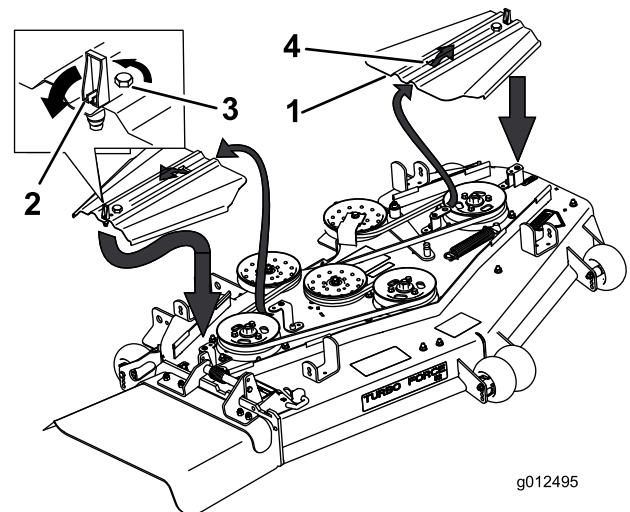

Figure 67
5. Remove the belt covers and the bolts attached to them (Figure 67).
- Install the belt covers by sliding the cover into the tab, tighten the bolts, and close the latches (Figure 67).